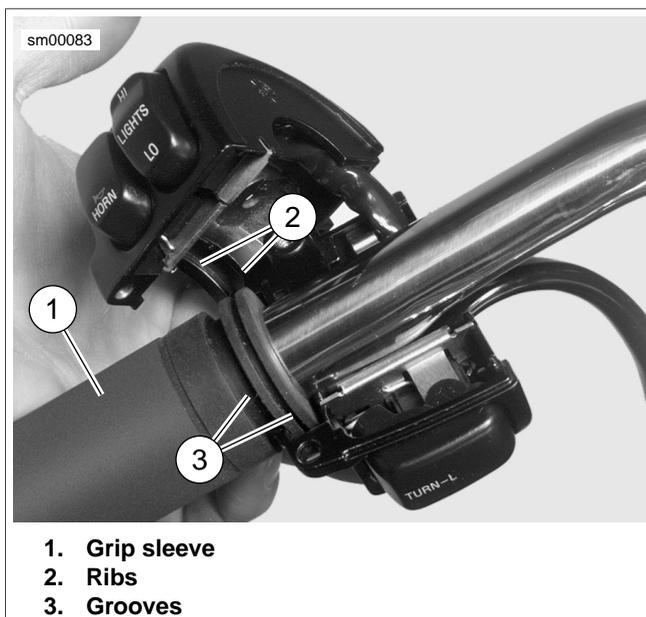

Figure 8-148. Install Left Handlebar Switch Housings
2. Install upper and lower switch housings on handlebar. Be sure that ribs on outboard side of switch housings fit in grooves molded into grip. See Figure 8-148.